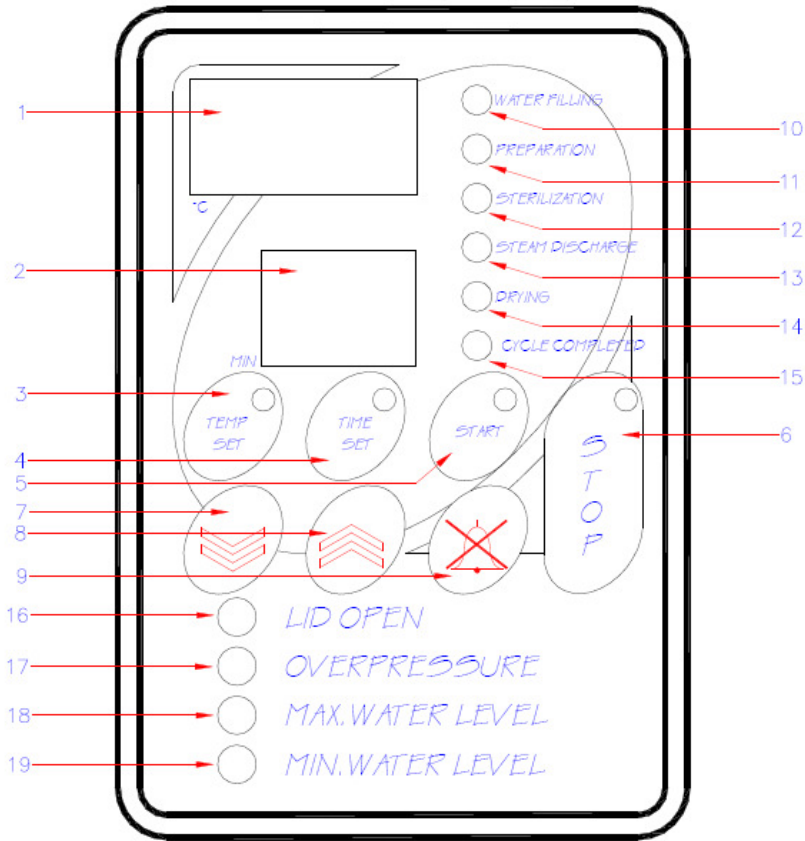

Figure 1- OT 020
4.2.1 OT 020 (Figure 1)
- Press “stop” (6) and pass to the 1st parameter and repeat this (press start-stop) until you reach to the 8th parameter.
- At the 8th parameter press “stop” (6) continuously until you see “LC1” on the temperature display.
- Press “time set” (4) you first see “HC1” on the temperature display, press “time set” again this time you see “LC2” on the temperature display, press “time set” again you see “HC2” on the temperature display. For the last time press “time set” and you see “JC” on the time display.